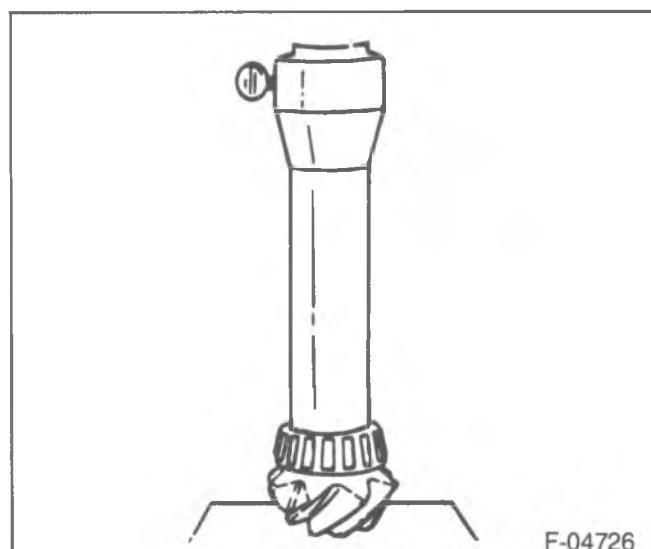
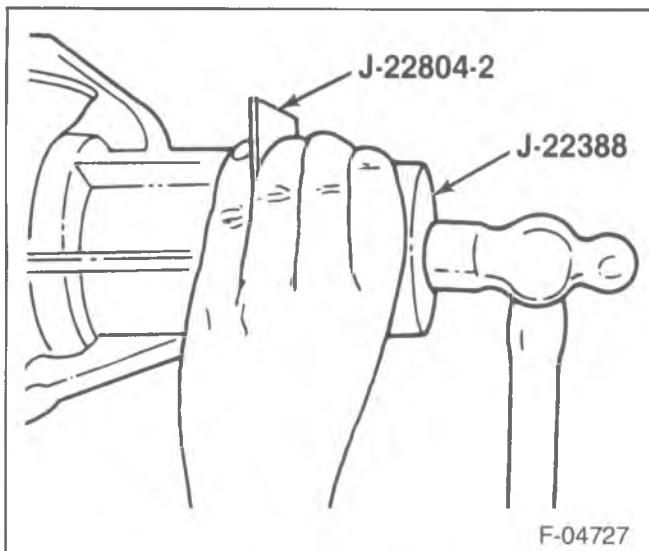
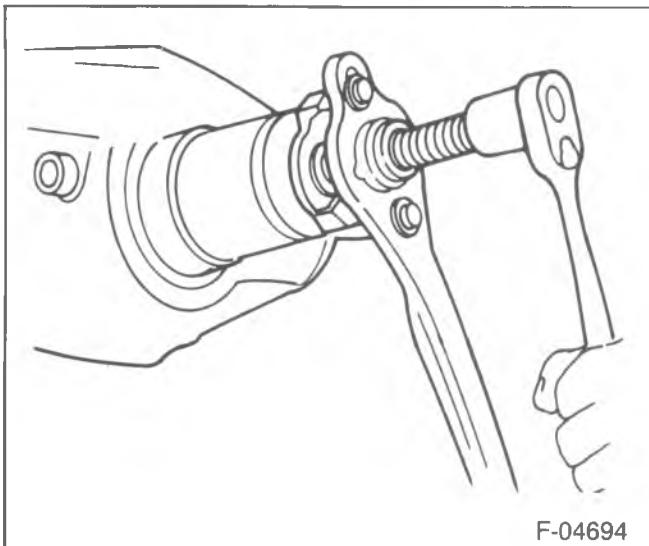

Figure 55—Installing the Pinion Inner Bearing
Figure 56—Installing the Pinion Oil Seal
Figure 57—Installing the Pinion Flange
- 1. The pinion inner bearing (13) to the pinion.
- Press the bearing onto the pinion until the bearing cone seats on the pinion shim(s) (figure 55).
- 2. A new collapsible spacer (11).
- 3. Pinion (15) to the axle housing.
- 4. Outer pinion bearing (10) onto the pinion using J-5590.
- 5. Pinion oil seal (9) using J-22388 and J-22804-01 (figure 56).
- 6. The pinion flange (8) to the pinion by tapping it with a rawhide hammer until a few threads show through the pinion flange.
- 7. The pinion washer (7) and a new nut (6) while holding the pinion flange with J-8614-01 (figure 57).